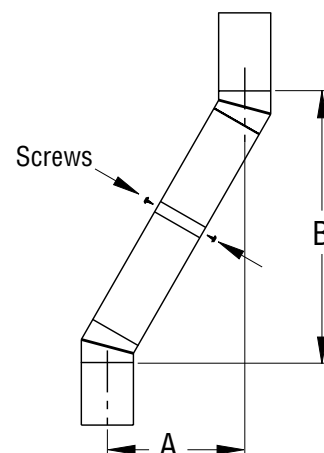

Figure 7- Elbow Offset
assure joint between chimney sections is locked. Check by pulling chimney upward after locking. Chimney will not come apart if properly locked. It is not necessary to add screws to keep chimney together (exception, see Figure 7).
- All pipe connections between the offset and return must be secured with two screws on the outer pipe only (see Figure 7, page 7). Do not penetrate the inner stainless.